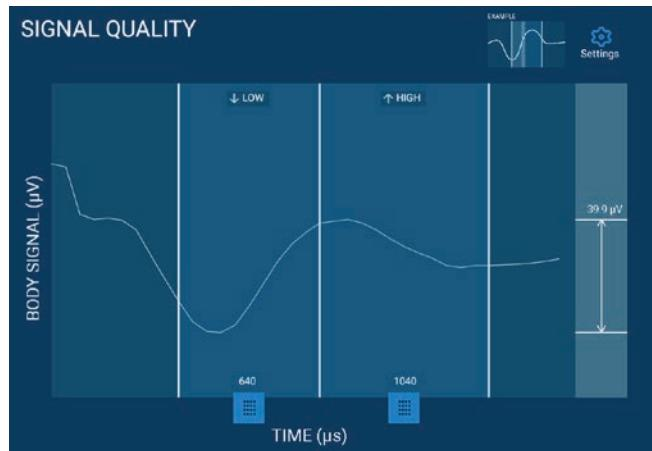

Figure 3. Example of SIGNAL QUALITY graph.
Figure 3 shows an example waveform for a body signal. The graph is used to review the quality of the signal. There should be a pronounced low point and high point in the curve for it to be considered a good signal. This graph is also used to check that the low point detection window and high point detection window are positioned correctly. The system automatically assigns the detection windows based on the Program 1 electrode configuration. The detection windows define the period of time when the system looks for a low point value and a high point value in the curve. These values are used to calculate the body signal size. In Figure 3, the calculated body signal size is 39.9 μ V. Adjustments to the detection windows are typically not needed but can be made by dragging the window handles.
1. On the **Review Signal** screen, review the signal in the **SIGNAL QUALITY** graph (see Figure 3 on page 38).